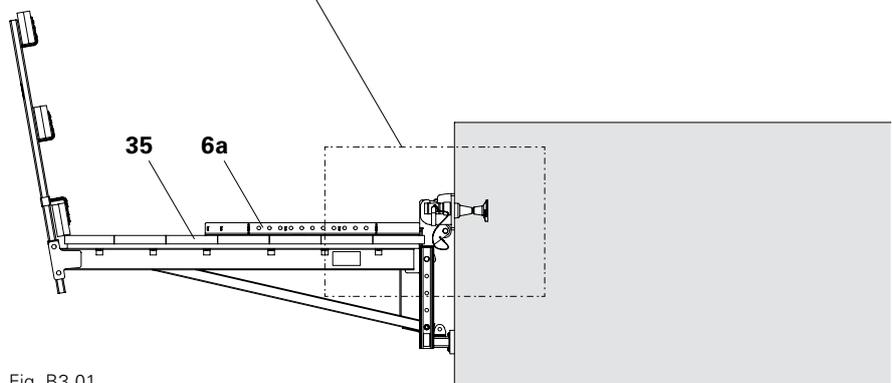

Fig. B3.01
1. Screw the Tie Rod DW 15 (56) into Eye Nut RCS DW 15 (59).
2. Screw the Hex. Nut DW 15 30/50 (57) into the Tie Rod DW 15 (56) and adjust to match the required dimension beforehand.
3. Insert Hex. Nut DW 15 30/50 (57) into the Formwork Support VGK 60 (6a) and screw in until contact is made with the front plate (6.5).
4. Fix with the Formwork Support VGK 60 (6a) to the planking (35) using wood screws. (Fig. B3.01 + B3.01a)